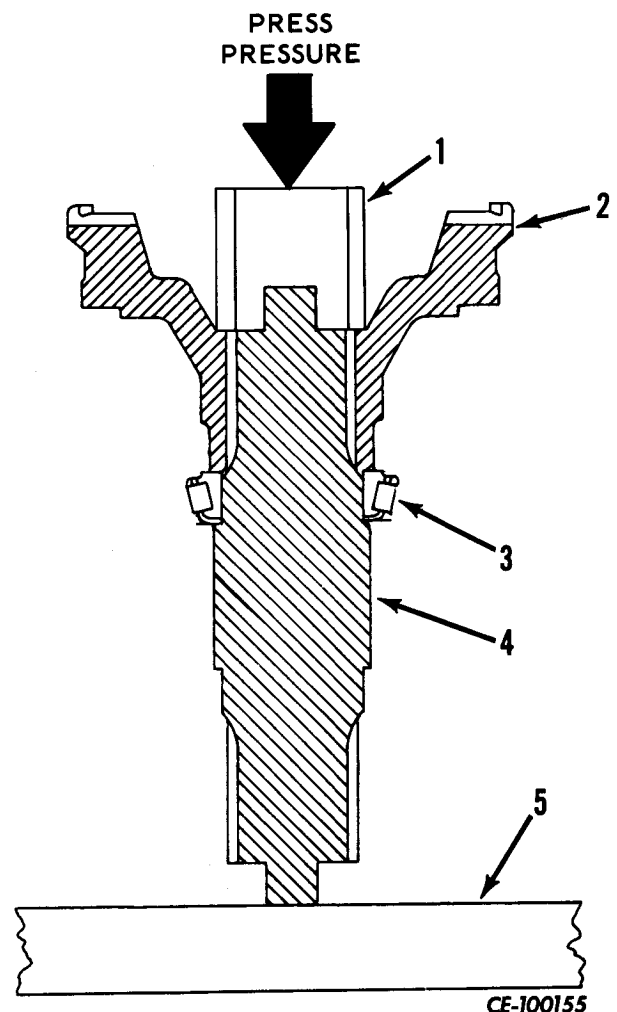

Figure 5-33
Position transfer drive shaft (4, Fig. 5-33) in an arbor press, input side up. Position bearing (3) on shaft. Install output yoke (2).